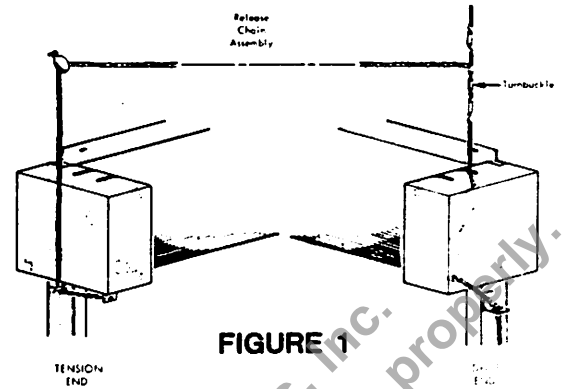

FIGURE 1
2. Unscrew Turnbuckle (See Figure 1). Release Chain Assembly will separate and activate Release Arms at Tension End and Drop Weight at Drive End.*
5. Reconnect Turnbuckle in Release Chain Assembly (See Figure 1) or replace damaged or separated Fusible Link.